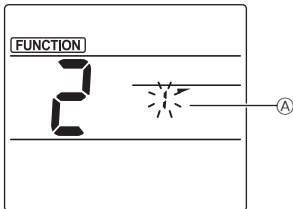

Fig. 2
- Selecting the vane number (Fig. 2)